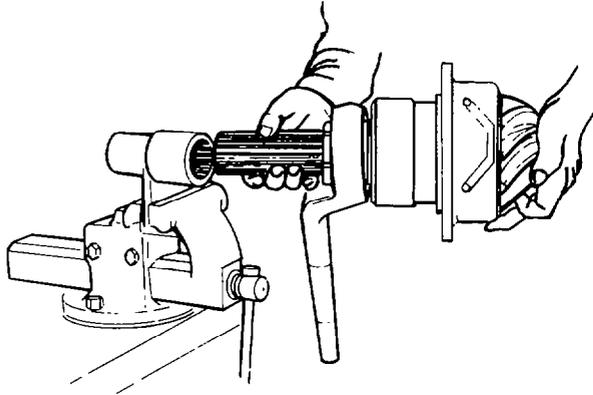

Figure 59 Removing the Yoke Nut
- b. Clamp Special Tool No. 11 in a bench vice; fit a ring spanner of appropriate size to the yoke nut on the pinion shaft (see Fig 59).
- d. Use a suitable press and blocks or collar to remove the pinion gear and shaft from the pinion flange; remove the shaft oil seal (5), crush ring (8), spacer (6), pinion bearing (7) and sealing ring (9) from the pinion flange (see Fig 59).
- e. Use a suitable puller or soft drift and hammer to remove both bearing outer races from the pinion flange; use a suitable puller or press and collar to remove the pilot bearing (13) from the pinion shaft.